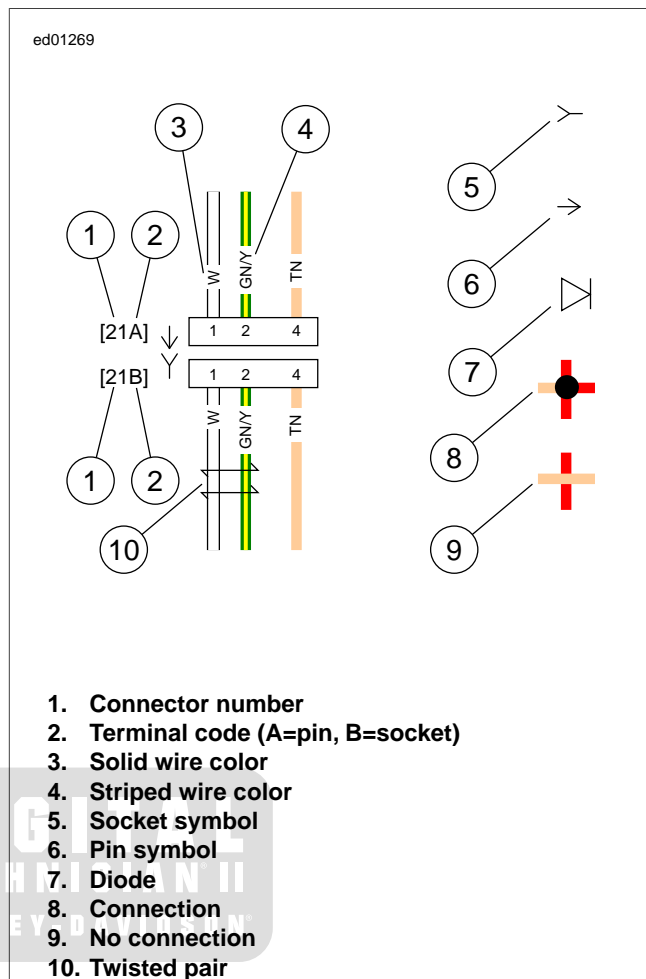

Figure B-1. Connector/Wiring Diagram Symbols (typical)
**For Solid Color Wires:** See Figure B-1. The alpha code identifies wire color (3).
**For Striped Wires:** The code is written with a slash (/) between the solid color code and the stripe code (4). For example, a trace labeled GN / Y is a green wire with a yellow stripe.
See Figure B-1. On wiring diagrams and in service/repair instructions, connectors are identified by a number in brackets (1). The letter (2) inside the brackets identifies whether the housing is a socket or pin housing.
**A=Pin:** The letter A after a connector number and the pin symbol (6) identifies a pin housing.
**B=Socket:** The letter B after a connector number and the socket symbol (5) identifies a socket housing.